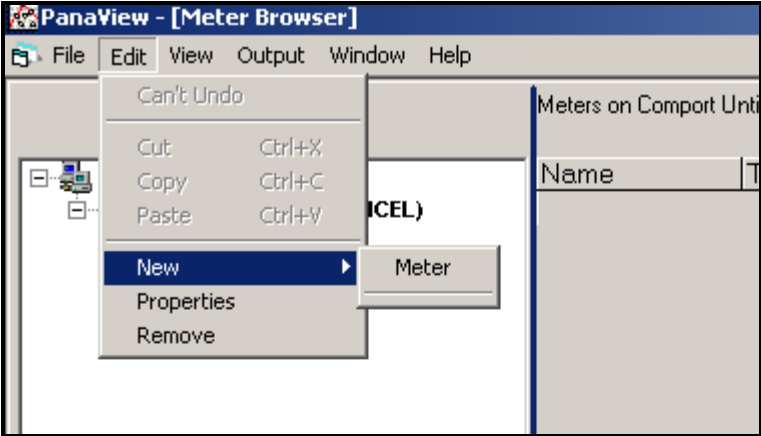

Figure 36: New Option in the Edit Menu
2. Click on the *New* option in the *Edit* menu (see Figure 36).